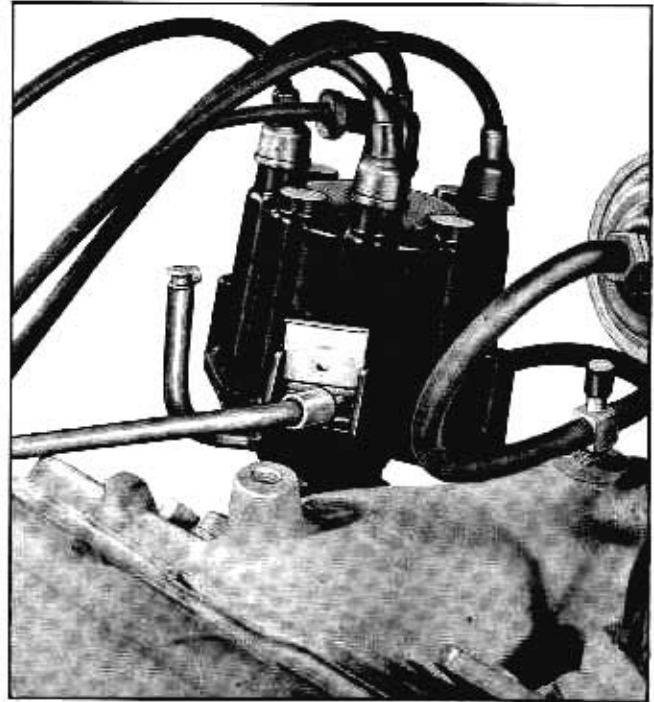

Fig. 11-39 Adjusting Dwell Angle
With the engine running at idle, the dwell is adjusted by first raising the window provided in the distributor cap and inserting a "Hex" wrench into the head of the adjusting screw as shown in Figure 11-39.
2. With the distributor operating turn the adjusting screw (Fig. 11-39) until the proper dwell angle is obtained.